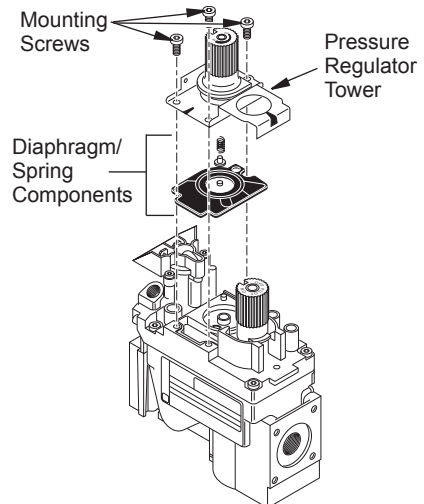

Figure 51 - Removing Parts for Gas Control Valve Conversion
1. Using a TORX T20 or a slotted screwdriver, remove and discard three mounting screws, pressure regulator tower and diaphragm/spring components (see Figure 51).